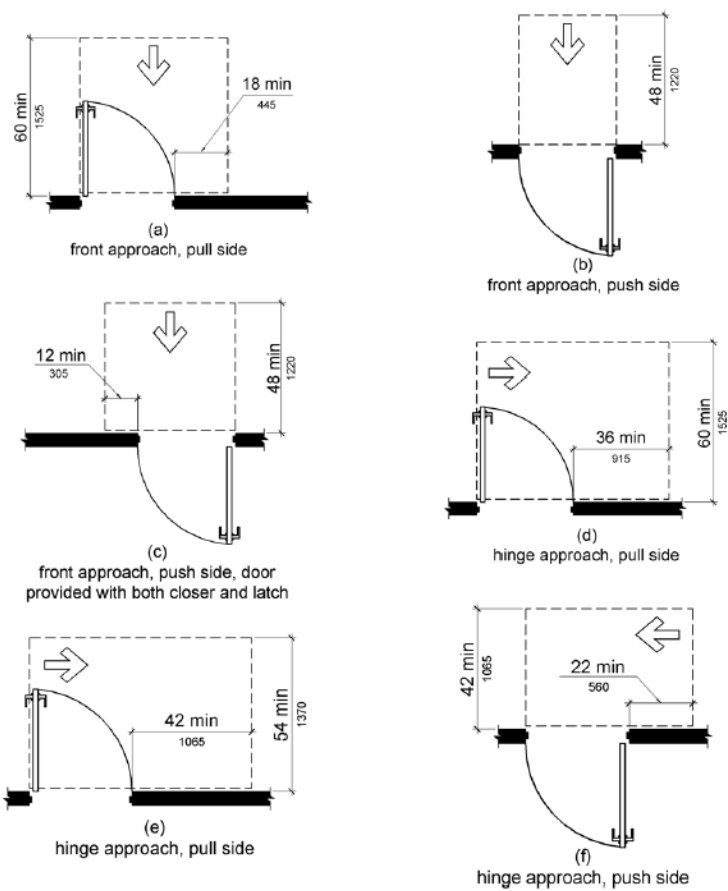

Figure 1
- d. If a door is located at a landing, the ramp shall comply with the maneuvering clearance at doors; UFAS section 4.13.6 (see fig. 1 below).